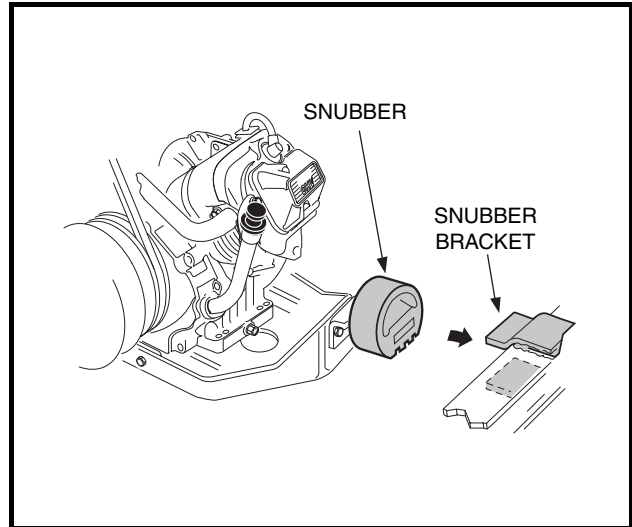

Figure 16-45 Snubber
14. Remove the blocks from under the engine and roll the powertrain into position under the vehicle. Lift the front of the powertrain and place the snubber into the snubber bracket in the vehicle frame (**Figure 16-45, Page 16-19**).